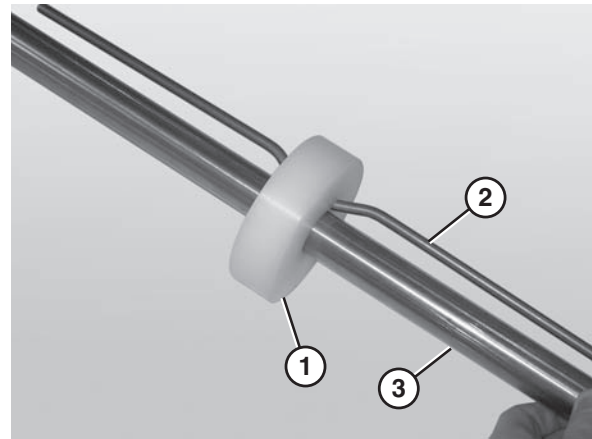

Figure 62
- Place the idler puck (**Figure 62, item 1**) at the center of the bent retaining bar (**Figure 62, item 2**).
- Slide the idler puck onto the idler shaft (**Figure 62, item 3**). Make sure to center the idler puck.